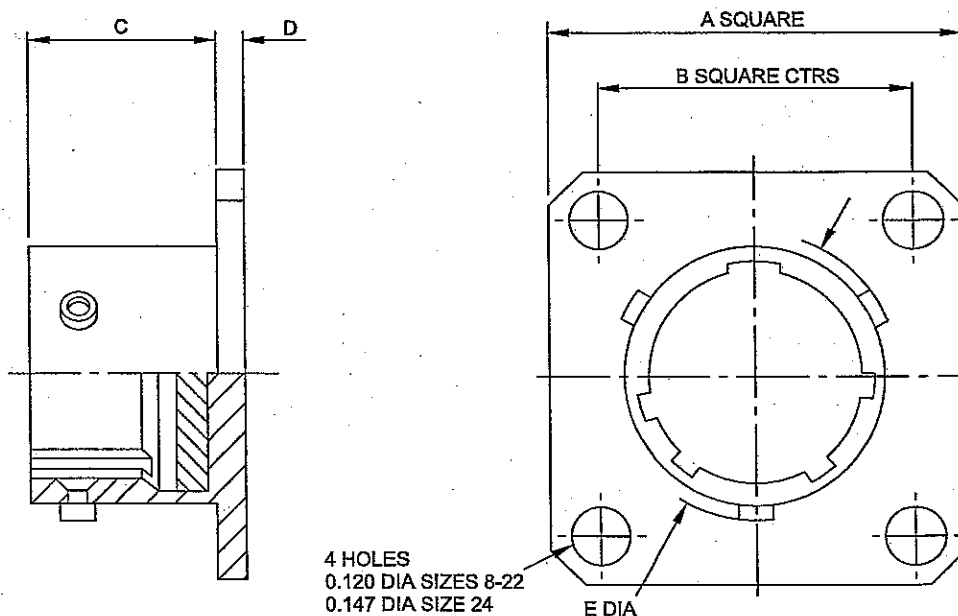

Fig 28- Dummy storage receptacle, dimensions
18.2 Details of the normal oriented dummy receptacles which conform to MS3115 are given in Fig 28 and Table 17.